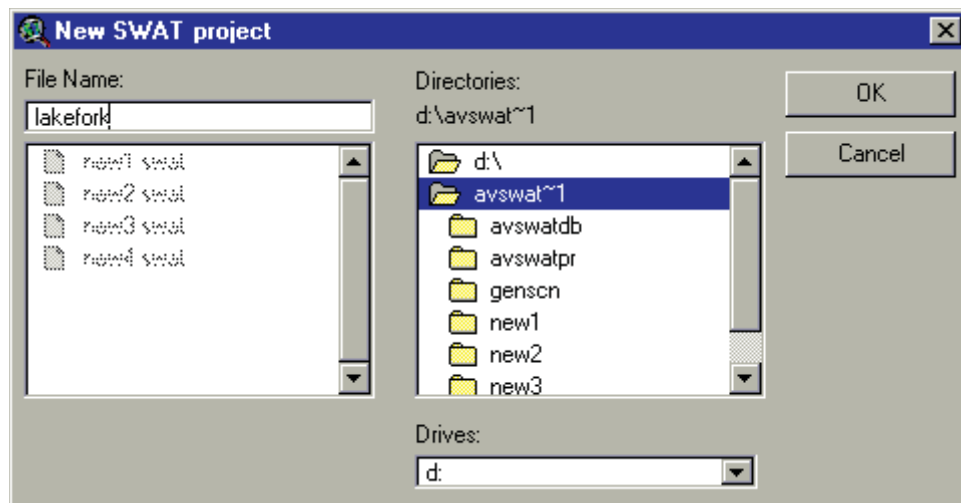

Figure 15.3
6. A browser will be displayed requesting a name for the new project. Type **lakefork** in the text box labeled **File Name** (Figure 15.3).